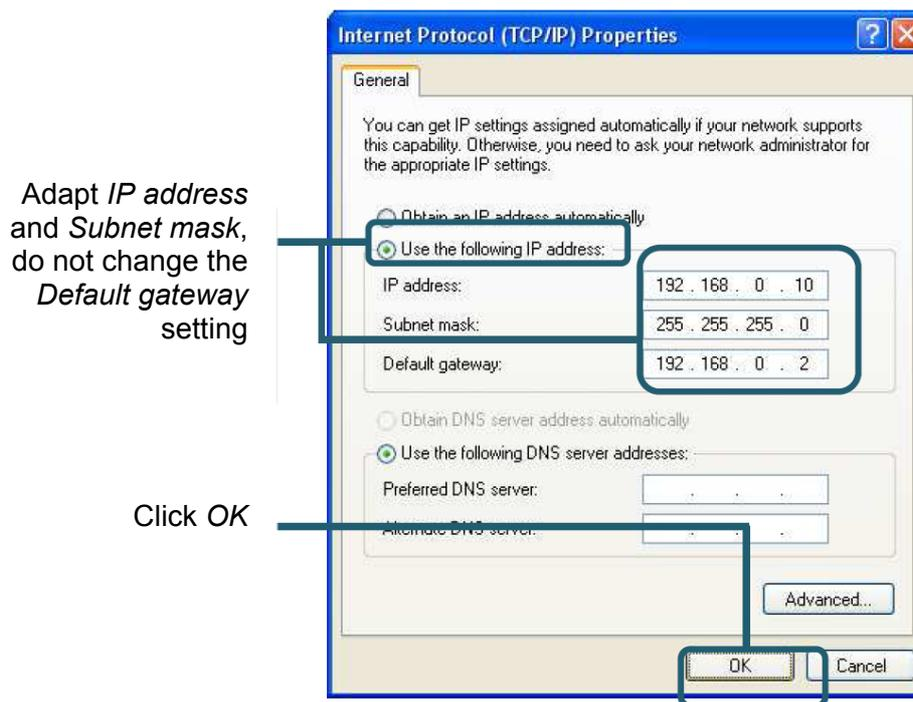

Fig. 12: Internet Protocol (TCP/IP) Properties window, the settings shown are only examples and may not match those you wish to use for your PC
4. In the *Internet Protocol (TCP/IP) Properties* window (Fig. 12), activate *Use the following IP address*. Make a note of the